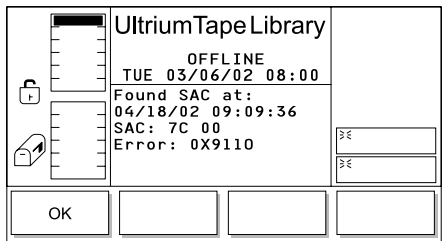

Figure 259. Normal Service Dialog
- To view the SAC codes and resolve the error by yourself (normal service), press the button below the **OK** softkey. The Normal Service Dialog displays a list of SACs and a message when there are no more SACs to report (see Figure 259). To return to the Service Menu, press the button below the **OK** softkey.